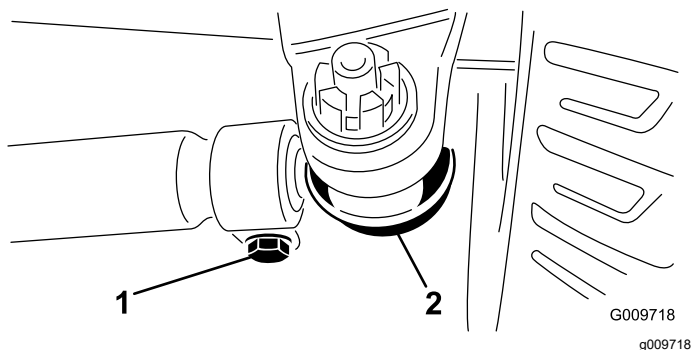

Figure 111
3. To adjust the toe-in, remove the cotter pin and the nut from either tie-rod ball joint (Figure 111).
5. Loosen the clamps at both ends of the tie rods (Figure 111).